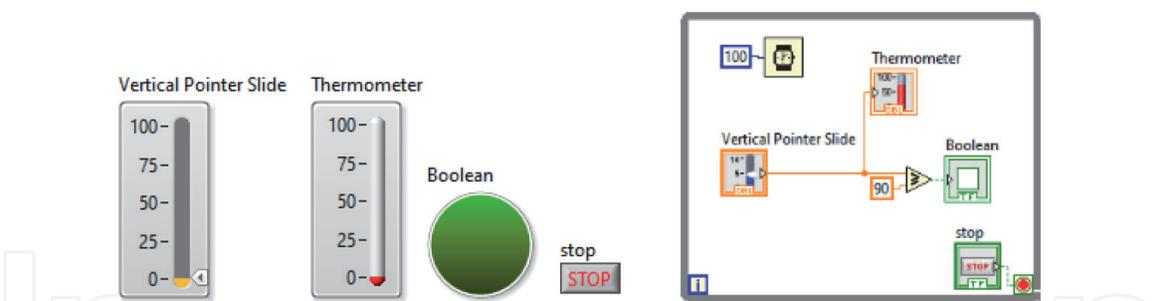

Figure 20.
1. Create a VI. We created a VI named Remote Panel Example.vi (**Figure 20**).